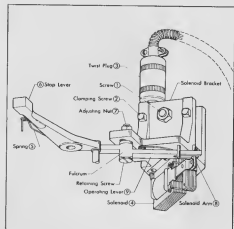

FIGURE 8
See Figure 8 showing old style Pot Pump Solenoid Bracket. The action of the pump lever is adjusted by changing the position of adjusting nut (7) and the retaining screw.